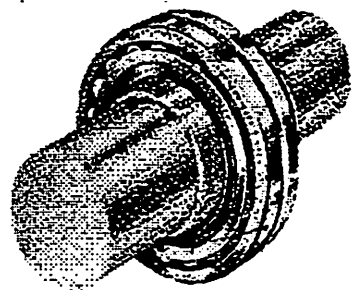

Fig. 4. Bearing
**Step #5. (Fig. 4) Bearing — Clean Bearing Bore** Mount bearing on adapter sleeve, starting with the large bore of the inner ring to match the taper of the adapter. With the bearing hand tight on the adapter, locate bearing to the proper axial position on the shaft. (Do not apply lockwasher at this time because drive up procedure may damage lockwasher.)
### Step #4. (Fig. 4) Clean Bearing Bore